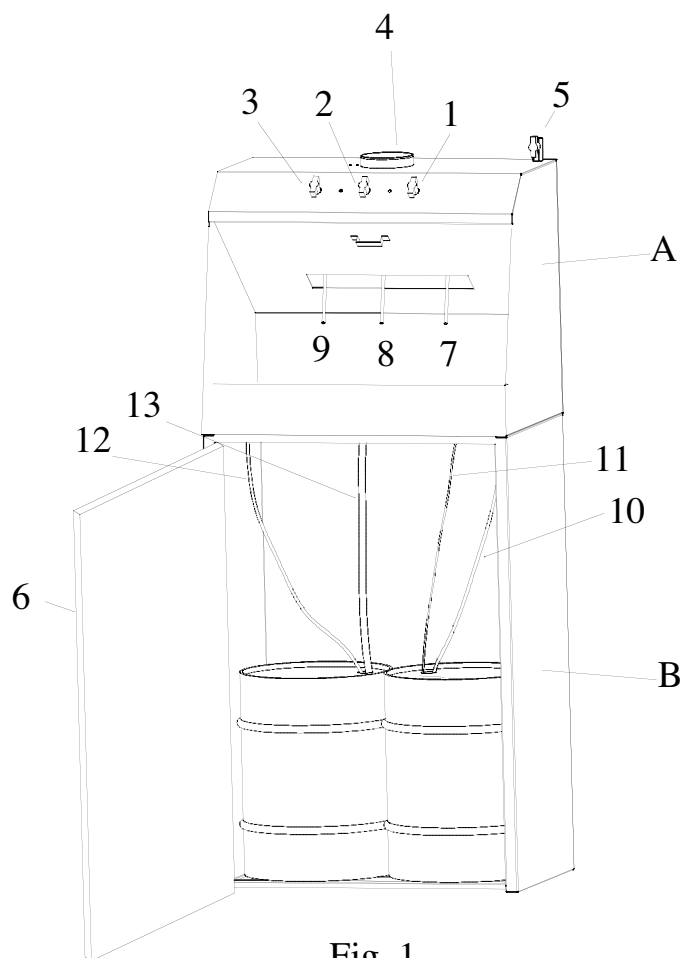

Fig. 1
It has two parts (see fig. on page 3): the washing chamber (A) and the base (B), as shown schematically in figure 1.